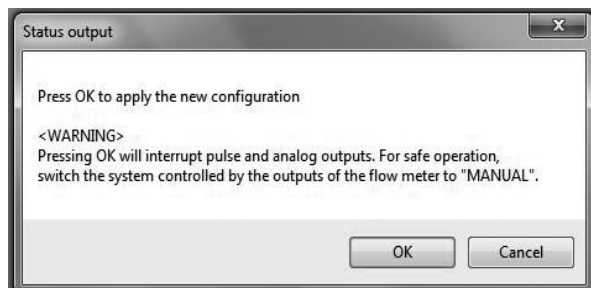

Fig. 3-42
- (4) Click "OK" button after all settings are completed. Then the message box (Fig. 3-42) will be displayed. Click "OK" here to change the settings to the inputted values, and to reflect the changed setting values in the flowmeter's output. If the flowmeter's output is used to control valves or other such parts as safety protocol, change the control loop to manual control so that the control loop cannot be influenced by the flowmeter's output.